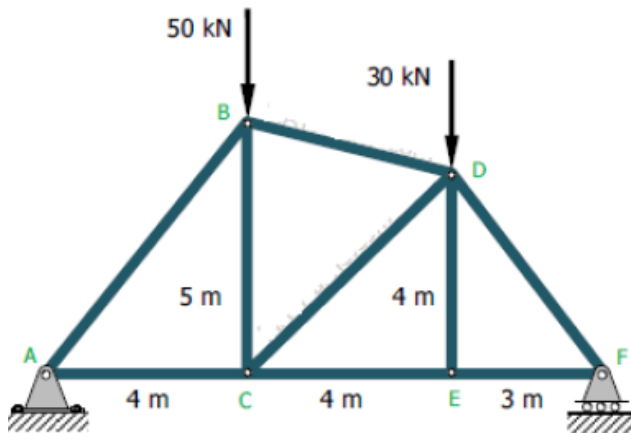

Figure: 1
- 1) Discuss the primary functions of following wing components: spars, stringers, and ribs with neat sketches. (2)
- 2) Discuss the transparent plastic and reinforced plastic materials used in the aircraft construction? (4)
- 3) Evaluate the internal forces in the members AB, AC, BC, BD, and CD of the truss structure shown in figure 1. (4)